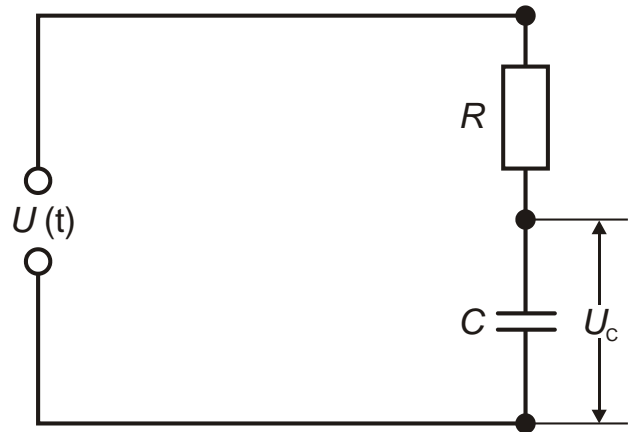

Fig. 3: Sketch of circuit.
- Set up the circuit shown in Fig. 3 on the plug-in board.